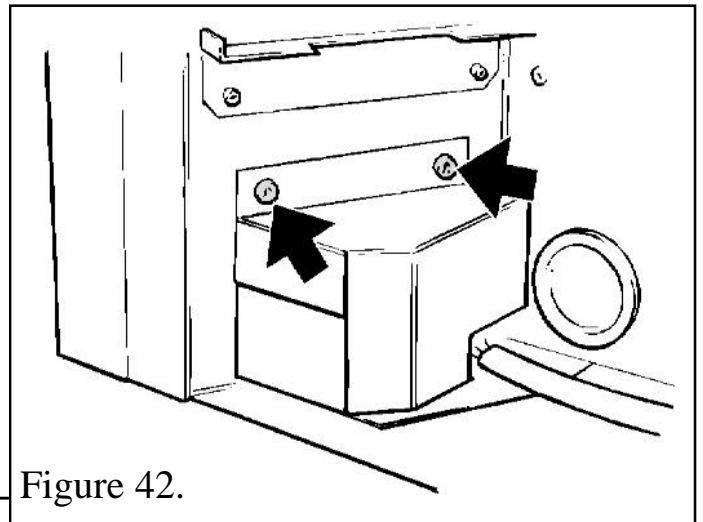

Figure 42.
- Detach the control unit from the fire box (left hand side) flange by removing two screws (See figure 42). Carefully withdraw the unit.